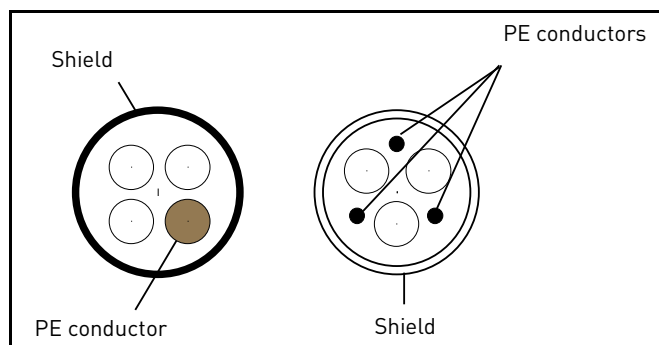

Figure 17.
- 2 = Symmetrical power cable equipped with concentric protection wire and intended for the specific mains voltage. (MCMK or similar recommended). See Figure 17.
- 3 = Symmetrical power cable equipped with compact low-impedance shield and intended for the specific mains voltage. [MCCMK, EMCCK or similar recommended; Recommended cable transfer impedance (1...30MHz) max. 100 mOhm/m]. See Figure 17.